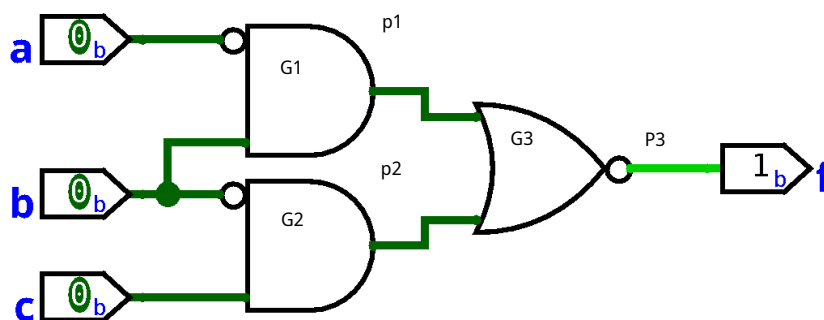

Figure 2: A more involved combinational circuit with three inputs and one output.
b) ⌚ Consider a slightly different logic circuit shown in Figure 2, which has three inputs a , b , c , and one output f . Write a structural (i.e., gate-level) Verilog description of the circuit. Use only Verilog gate primitives (e.g., **not**, **and**, **nor**).